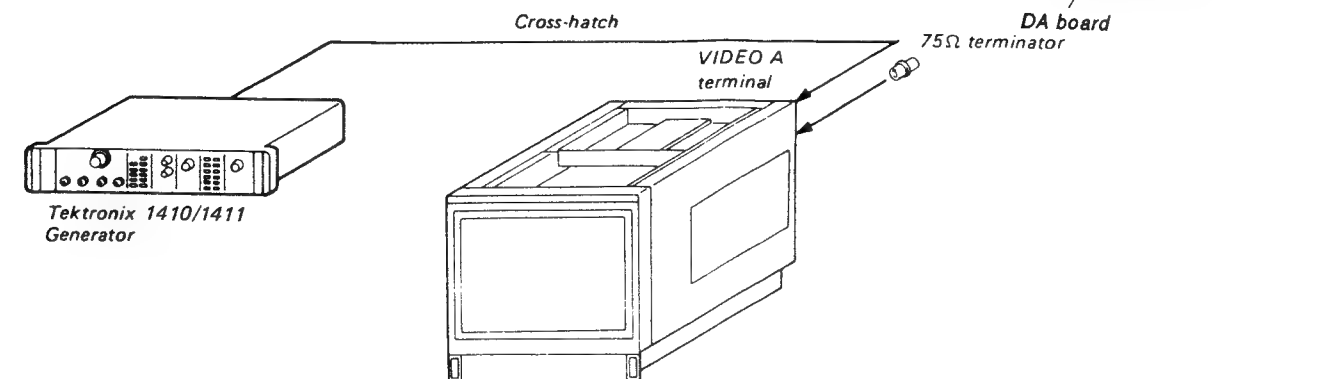

Fig. 29-7
- UNDER SCAN switch (Front panel (L)) ..... UNDER ( )
- Adjust H. LINEARITY by turning DA board RV6 (H LIN GAIN) as shown in Fig. 29-7.